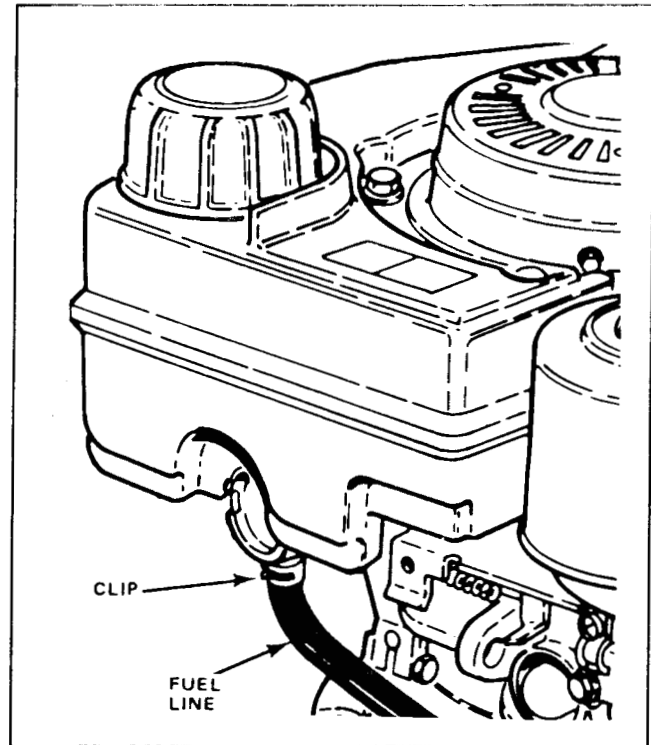

Figure 5
2. Squeeze the ends of the fuel line clip shown in Figure 5, and slide the clip down the fuel line. Carefully pull the fuel line off fitting and allow gasoline to flow into the drain pan.